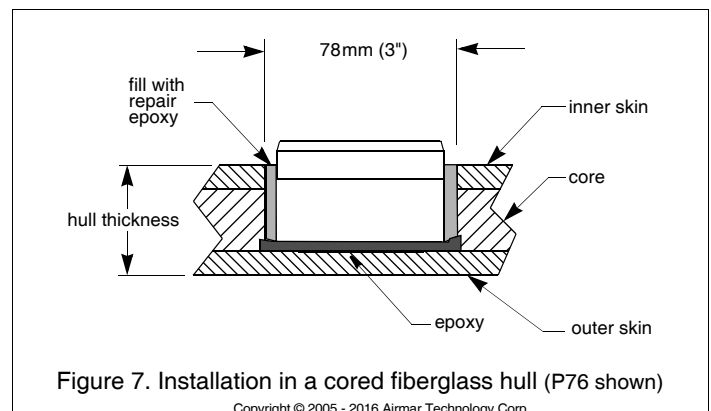

Figure 7. Installation in a cored fiberglass hull (P76 shown)
1. Using a 78mm or 3" hole saw, cut through the *inner skin* and the core at the selected location (see Figure 7). The core material can be very soft. Apply only light pressure to the hole saw after cutting through the inner skin to avoid accidentally cutting the outer skin.